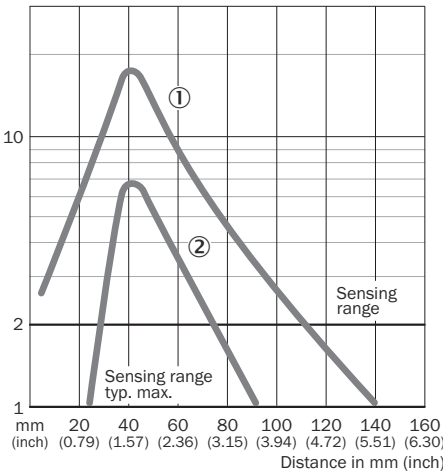

Figure 3: VTF180-2, axial design
Check the application conditions: Compare distance between sensor and background, minimal object height as well as remission capability of background and object with the associated diagram (see figure 3, page 26) (x = sensing range, y = minimum object height). Remission factor: 18% = gray ②, 90% = white ① (relative to standard white as per DIN 5033).